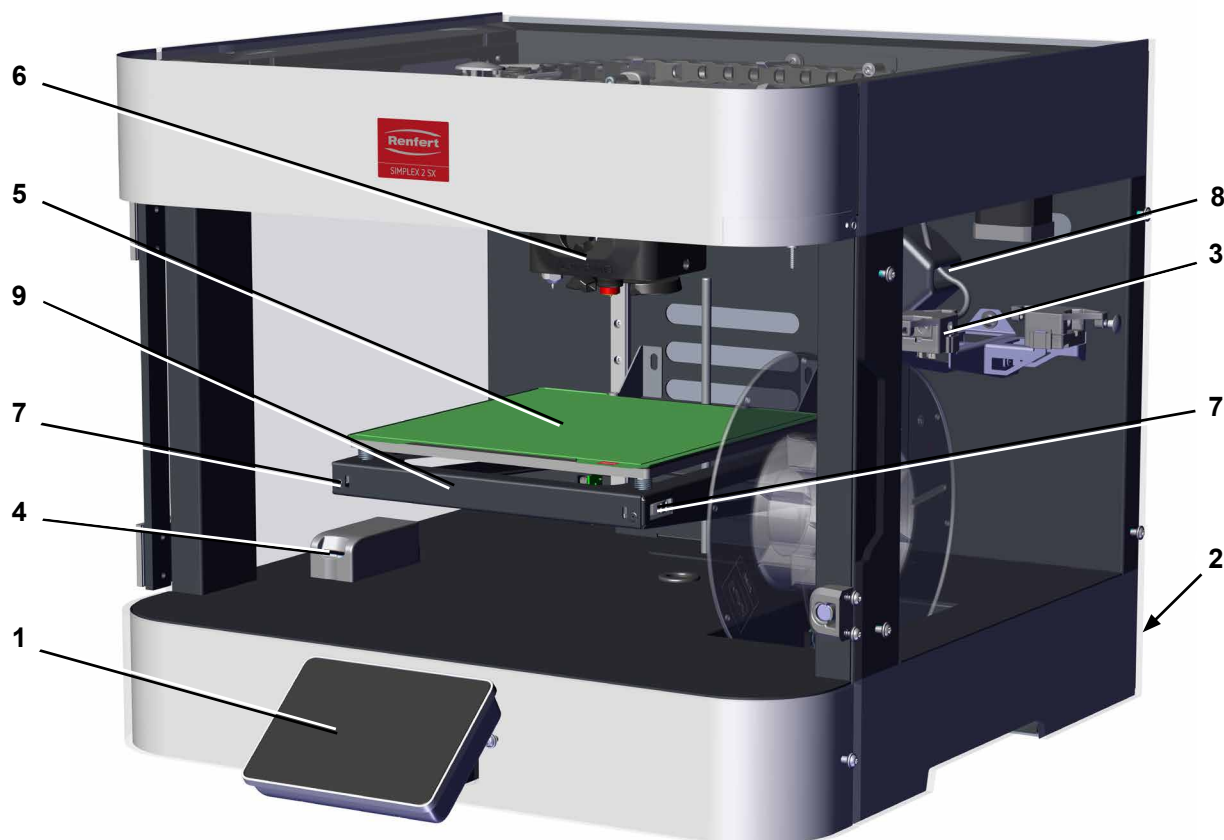

Fig. 1
Make sure that the ON/OFF switch (2, Fig. 1) is set to “Off” (O).
- ⇒ Plug the power cord into the connection for the mains power supply (2, Fig. 1) on the rear of the unit.
- ⇒ Switch the unit on using the ON/OFF switch (2, Fig. 1) on the rear of the unit.